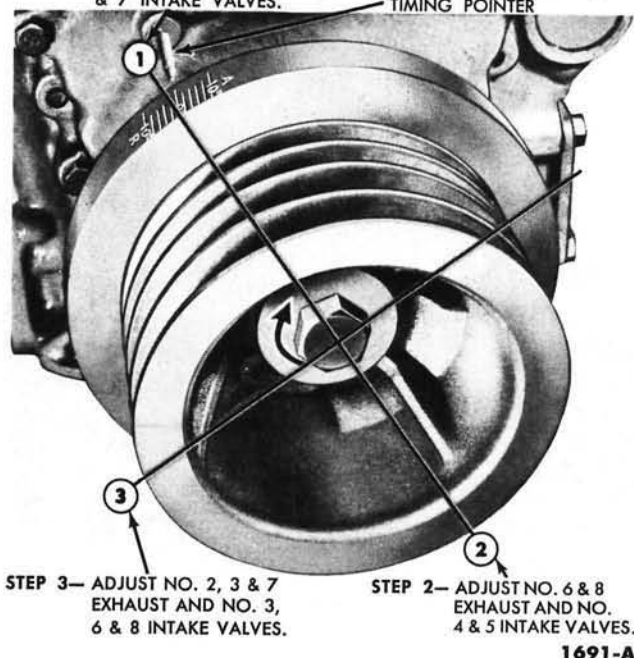

FIG. 27—Preliminary Valve Lash Adjustment
1. Make three chalk marks on the crankshaft damper (Fig. 27). Space the marks approximately 90° apart so that with the timing mark, the damper is divided into four equal parts (90° represents 1/4 of the distance around the damper circumference).